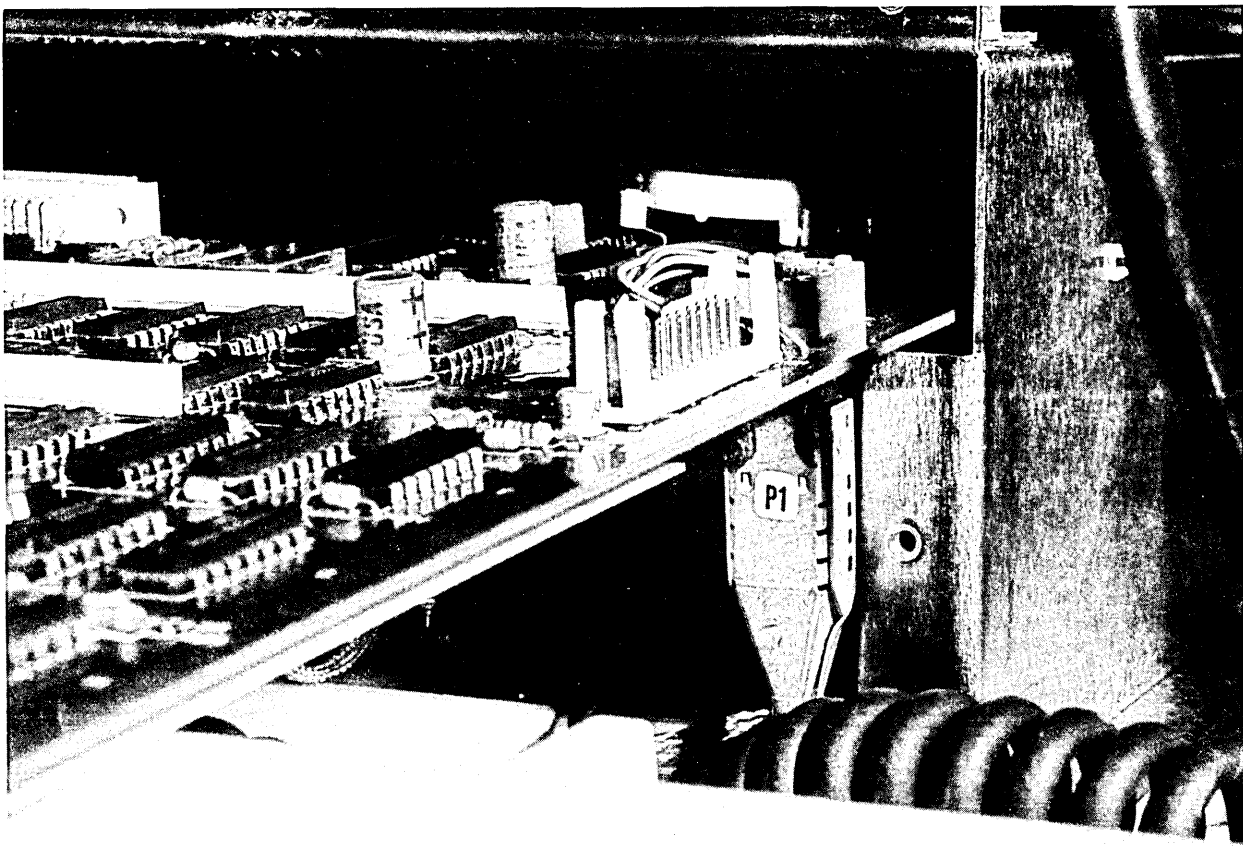
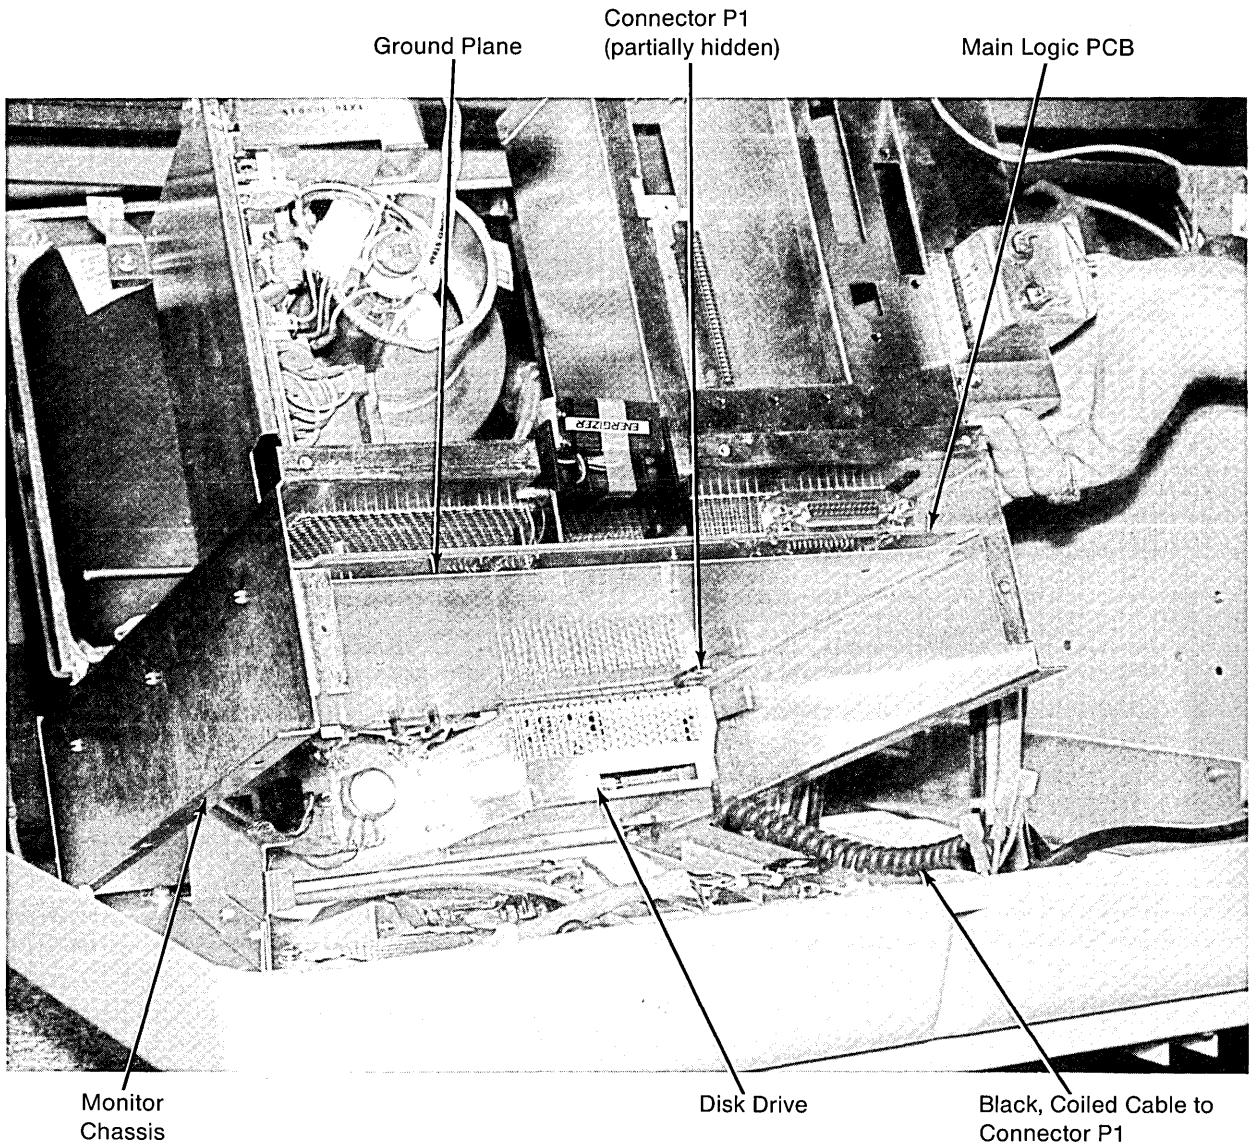

Figure 5-12. Connector P1 Mated to Main Logic PCB
Figure 5-26. Monitor Tilted Up
10. See figure 5-26. With the chassis tilted up, a) detach all connections to the back of the disk drive and b) detach the black, coiled cable terminating in connector P1 (see also figure 5-12).